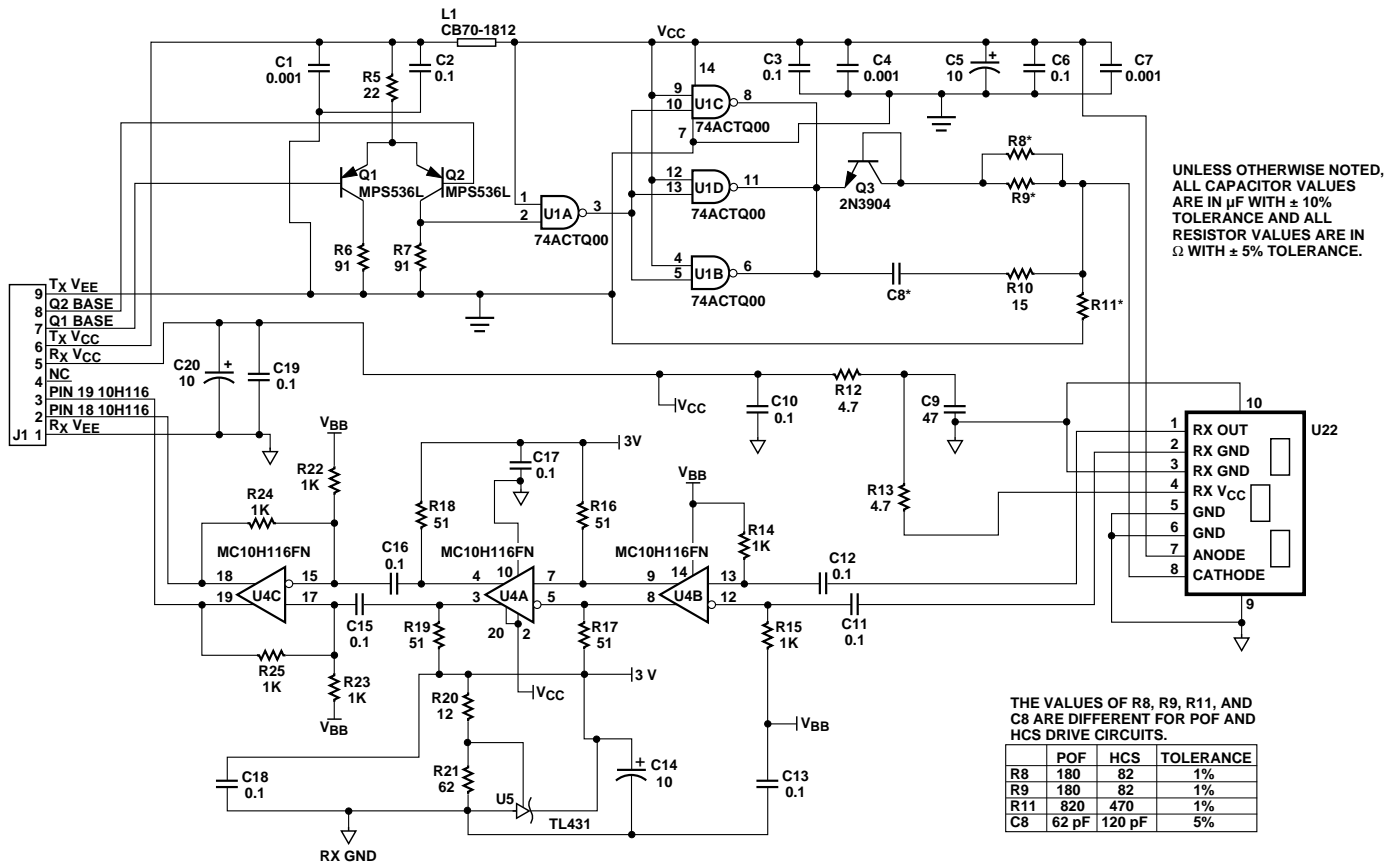

Figure 1. Transmitter and Receiver Application Circuit with +5 V ECL Inputs and Outputs.
the recommended applications circuits shown in Figure 1. This circuit has been optimized for 125 MBd operation. The Applications Engineering
Recommended Operating Conditions for the Circuits in Figures 1 and 2.
- If the output of U4C in Figure 1, page 4 is transmitted via coaxial cable, terminate with a 50 Ω resistor to $V_{CC} - 2$ V.
Performance of the transmitter in the recommended application circuit (Figure 1) for POF; 1-125 MBd, 25°C.
Hard Clad Silica Fiber (200 μm HCS) Transmitter Application Circuit: Performance of the transmitter in the recommended application circuit (Figure 1) for HCS; 1-125 MBd, 25°C.
Performance^[4] of the receiver in the recommended application circuit (Figure 1); 1-125 MBd, 25°C unless otherwise stated.
Electrical/Optical Characteristics 0 to 70°C; 5.25 V ≥ V_{CC} ≥ 4.75 V; power supply must be filtered (see Figure 1, Note 2).
- Pins 9 and 10 are primarily for mounting and retaining purposes, but are electrically connected with the conductive housing. Pins 5 and 6 are electrically unconnected. It is recommended that pins 5 and 6 be connected to Rx ground to reduce coupling of electrical noise. Refer to Figure 1. The connections between pins 1 and 2 of the HFBR-5527 and pins 13 and 12 of the MC10H116 should be adjacent and nearly the same length to maximize the common mode rejection of the MC10H116 to eliminate cross talk between the transmitter and receiver.